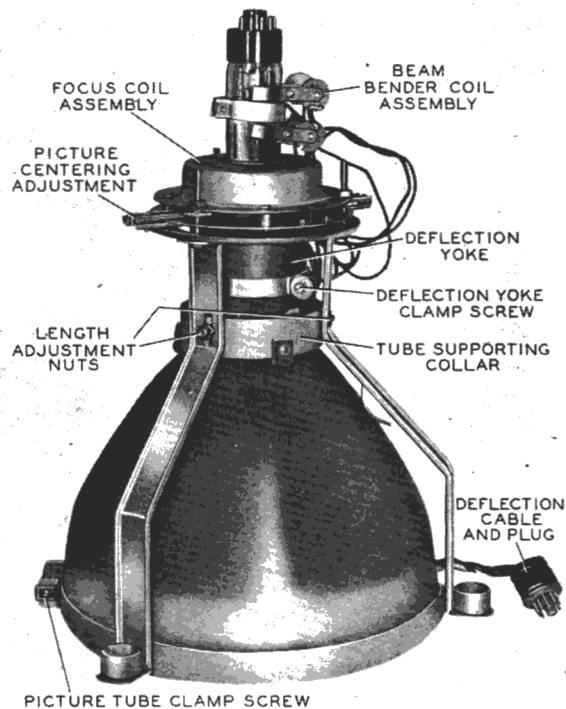

FIGURE 3. COMPLETED PICTURE-TUBE ASSEMBLY
16. Referring to figure 3, loosen the deflection-yoke clamp. Push the yoke forward until it touches the tube, and tighten the yoke clamp.